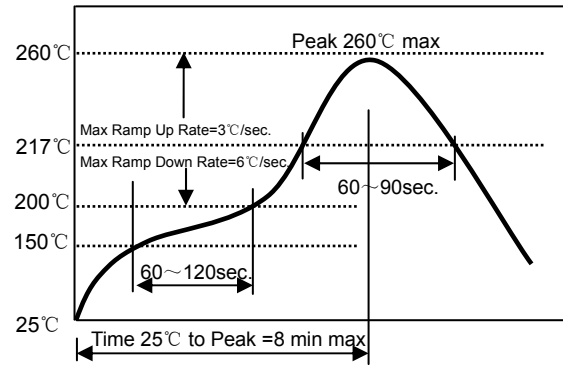

Fig. 10.1-1
- Please refer to Fig. 10.1-1.